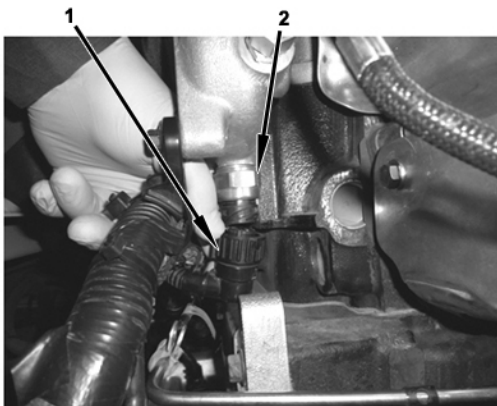

Figure 45 Engine Coolant Temperature Sensor
22. Connect engine harness (1) to engine coolant temperature sensor (2) (Figure 45).